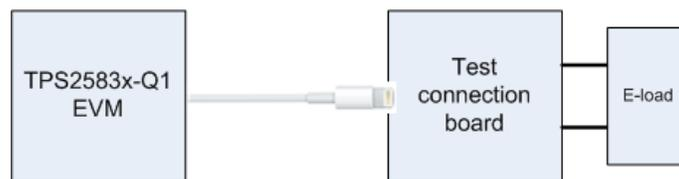

Figure 3. TPS2583x/4x-Q1 EVM MFi OCP Test Setup
2. The test setup between the TPS2583x/4x-Q1 EVM and E-load includes lightning cable, test connection board. The setup as Figure 3.